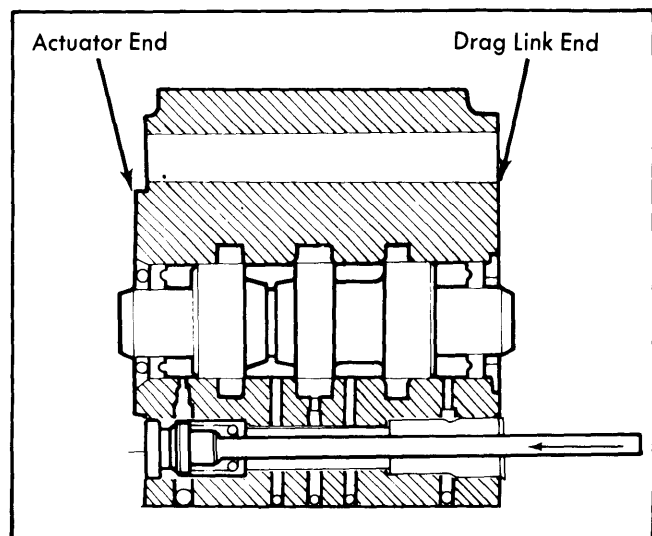

Fig. 2 Pressing Reaction Limit Plug from Control Valve Body
2) Carefully lift control valve body over the spool bolt. Remove reaction limit plug from control valve body (drag link end). Remove reaction limit spring, washer and plunger. Now remove reaction limit plug at actuator end of control valve body. **NOTE** — If plug has a press fit, use a $\frac{3}{16}$ " diameter rod approximately four inches long to press plug out as shown in Fig. 2.